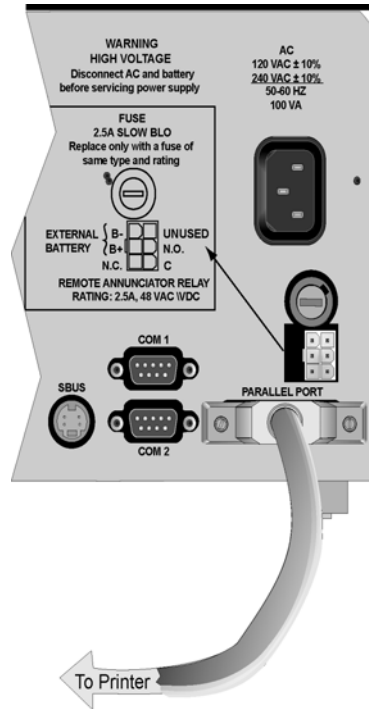

Figure 3-7 Parallel Printer Cable Connection to 9500
1. Connect the standard parallel printer cable to the parallel printer port on the back of the 9500. (See Figure 3-7.)